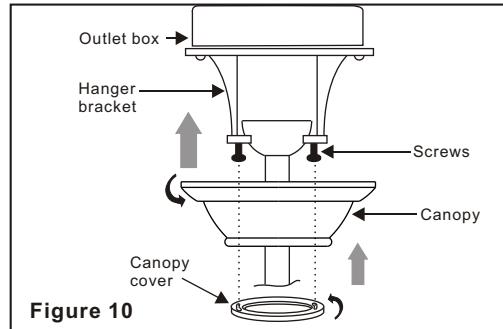

Figure 10
**Step 2.** Slide the canopy up to ceiling and over the 2 screws on the hanger bracket. Rotate canopy clockwise. Next, while holding the canopy with one hand, slide the canopy cover over the screws and rotate clockwise until tight. **Note:** adjust the canopy screws as necessary until the canopy and canopy cover are snug. (Fig. 10)